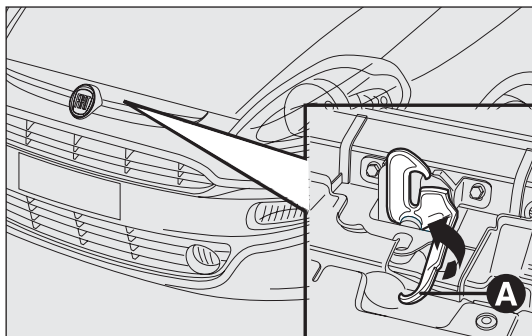

fig. 109
- ☐ pull the catch A-fig. 109 as shown in the diagram;